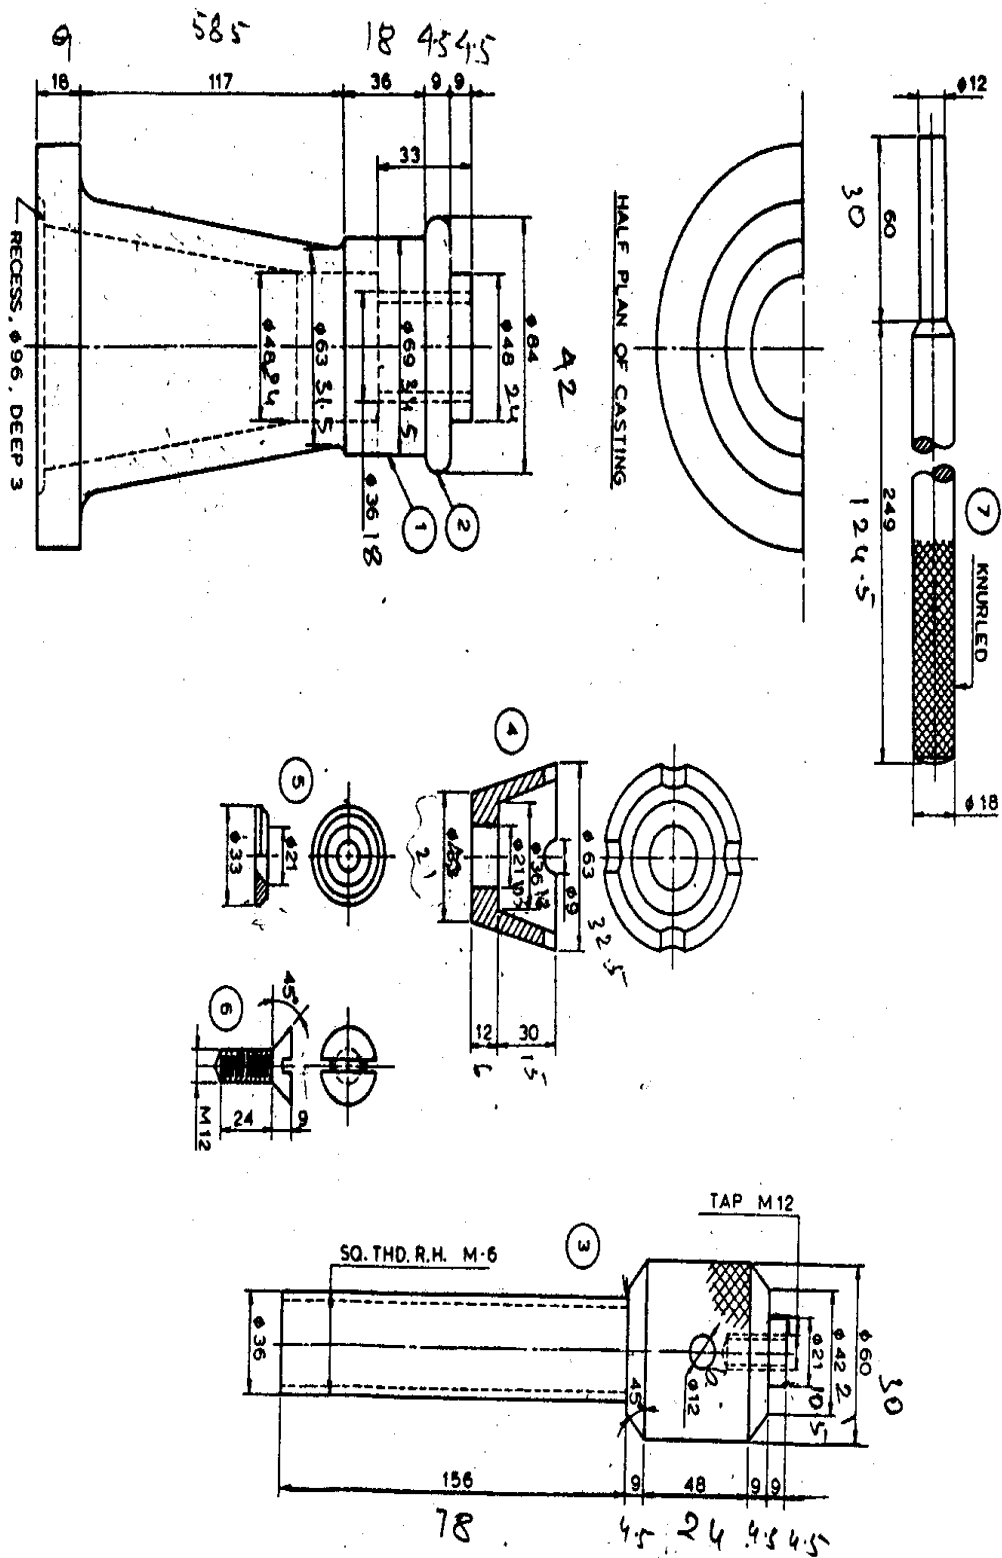

Figure 1:
2. Details of Screw Jack are given in the figure1 . Draw the following views of the Screw Jack with all the parts assembled together: [50]